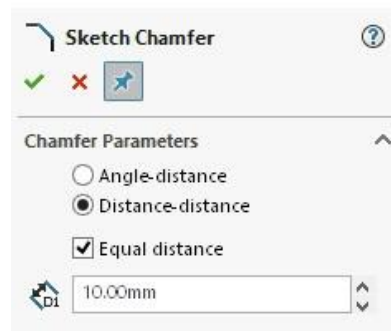

Figure 3-21 The Sketch Chamfer PropertyManager
1. Choose the **Sketch Chamfer** tool from the **Sketch Fillet** flyout in the **Sketch CommandManager**; the **Sketch Chamfer PropertyManager** is displayed, as shown in Figure 3-21.